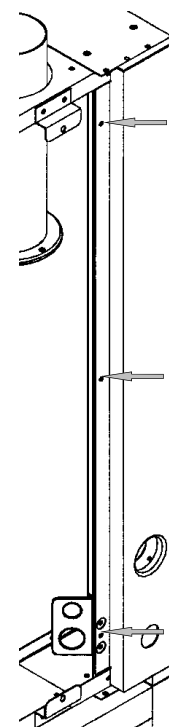

Figure 3
2. Remove rear RH side corner panel (power and water entry points), secured with 3 screws at front edge of panel (Figure 3).
2. Replace rear RH panel (Figure 3) on each unit using original screws.